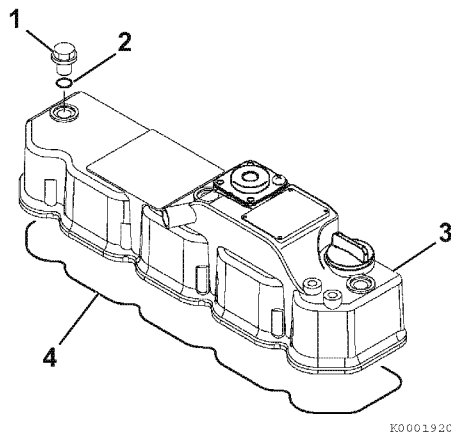

Figure 6-35
1. Lightly grease a new valve cover gasket (**Figure 6-35, (4)**). Place the gasket in the groove of the valve cover (**Figure 6-35, (3)**).
3. Be sure new O-rings (**Figure 6-35, (2)**) are installed on the valve cover nuts. Reinstall and tighten the valve cover nuts (**Figure 6-35, (1)**).